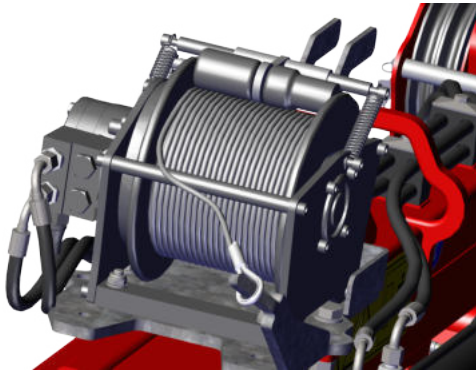

Figure 4.8 Check the cable
2. Check that cable is wound neatly and tightly on the drum; if not, unwind the cable and wind it tightly (see *Figure 4.8*).
6. When the cable is not in use, secure the loop on the cable to the designated hook on the winch (see *Figure 4.8*).
1. After you have used the winch, wind in the cable until the end is about one metre in front of the crane, run it through the sheaves and then pull the cable tight and wind it in (see Figure 4.8).